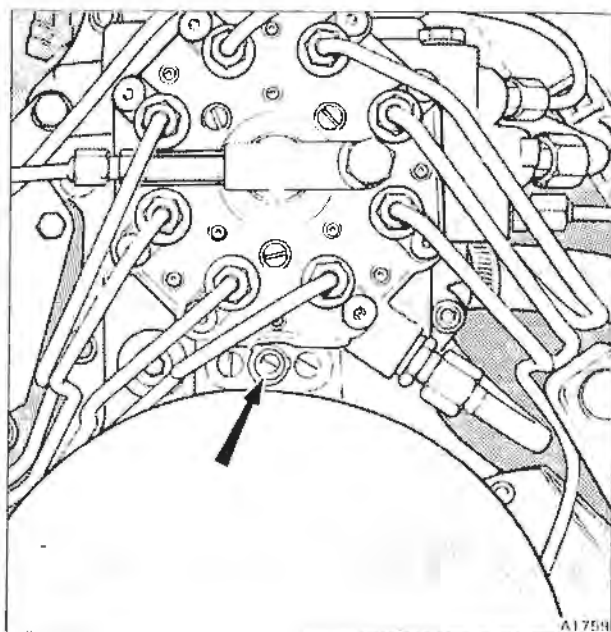

Fig. B2-49 Mixture adjusting screw
3. If the CO reading is outside the above range, remove the tamperproof plug and blanking screw (if fitted) from the fuel distributor (see fig. B2-49). Insert the mixture adjusting tool RH 9608 and adjust the mixture strength as follows.